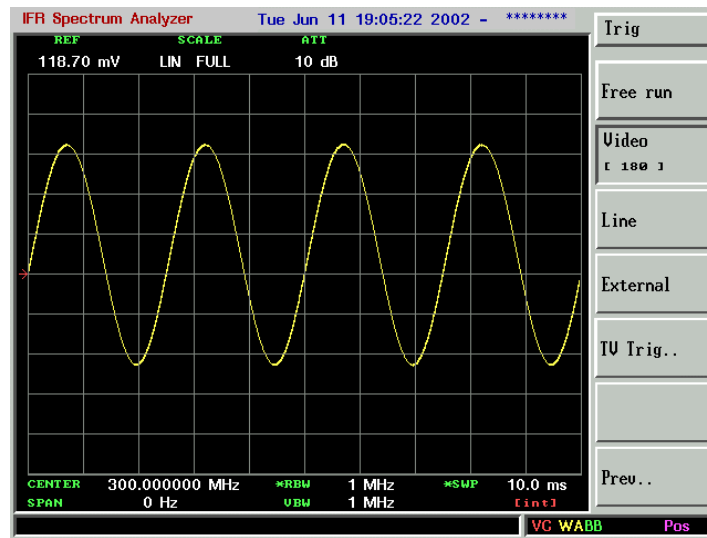

Figure 2-25. Measuring Modulation in Zero Span.
11. Adjust the sweep time to change the horizontal scale by pressing **CPL**, *Swp Time [MNL]*, *Swp Time, 10 ms*. See Figure 2-25.